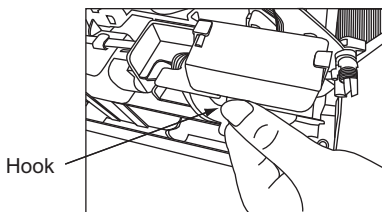

Figure 1.0
- Remove the network adapter box by releasing the hook (Figure 1.0).